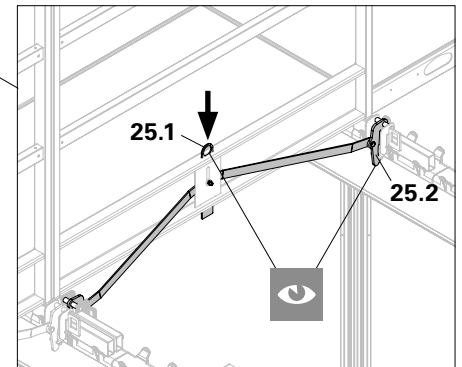
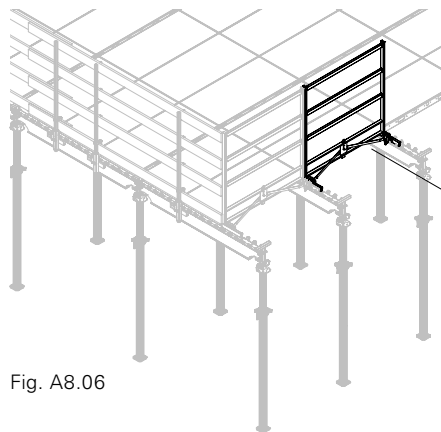

Fig. A8.05
Fig. A8.06
If the lug is not completely down, then press lug (25.1) downwards by stepping on it. (Fig. A8.05) The Handrail Unit is installed. (Fig. A8.06)
- Do the hooks enclose the teeth of the main beam? (Fig. A8.05)